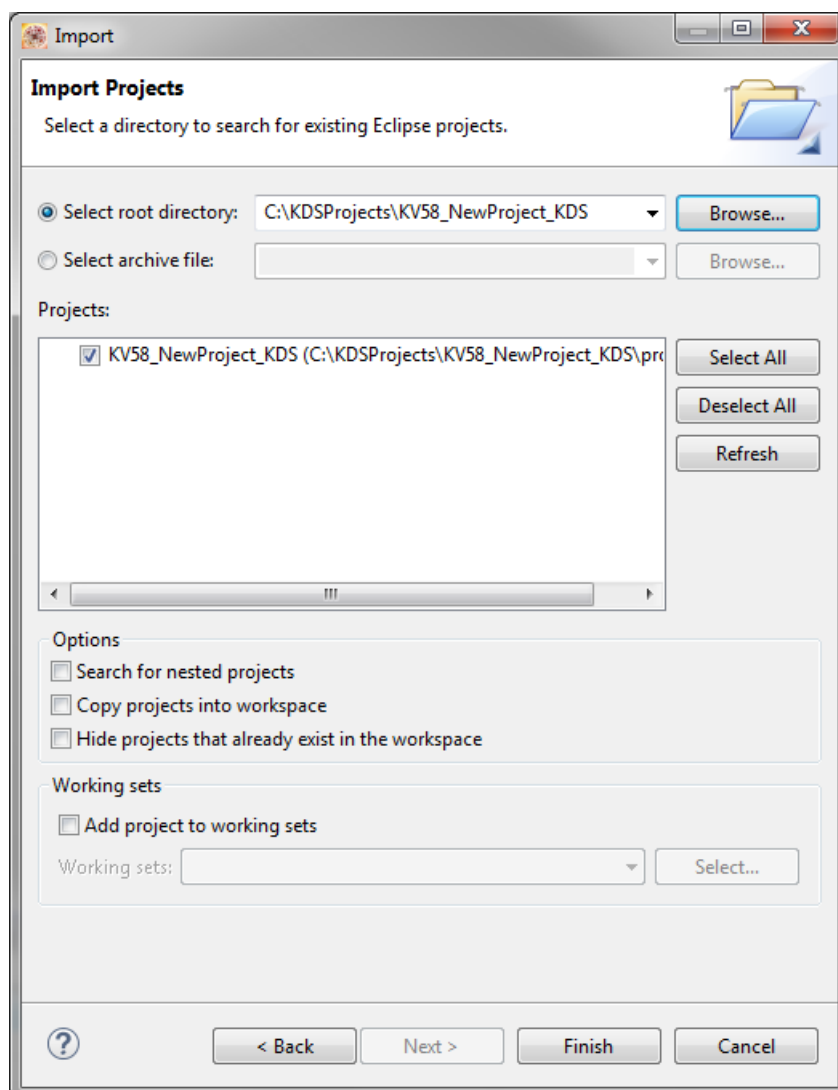

Figure 1-2. Project import folder
5. In the Select root directory box, type the path to which you copied the project (C:\KDSProjects\KV58_NewProject_KDS), or look for it by clicking Browse. See Figure 1-2.